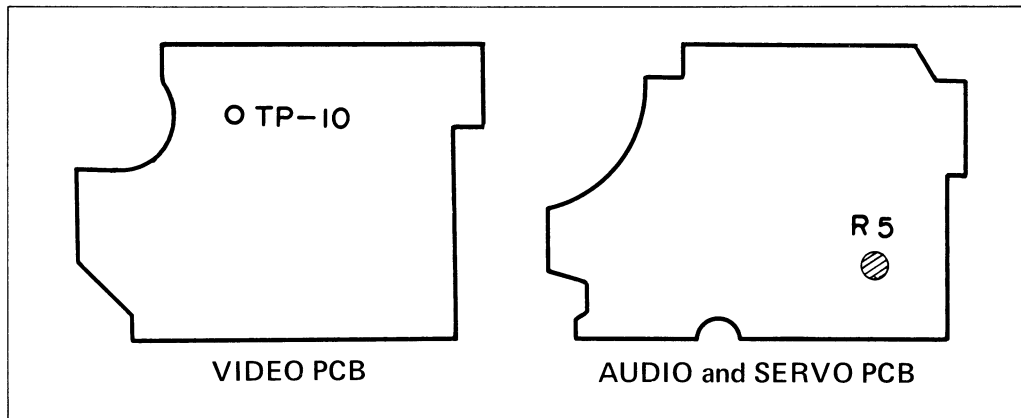

Fig. 5-19. P.B. Color balance adjustment
1. Connect the oscilloscope to TP-10 (ACC Input) on the video printed circuit board and play the alignment tape, color bars section. Refer to Fig. 5-19.